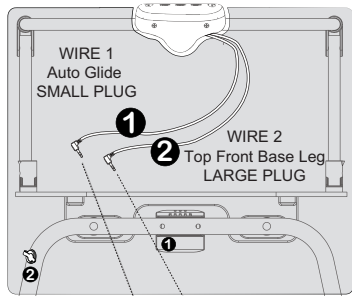

Fig. 1
- Locate the auto-glide housing plug cord **1** and insert it into the auto-glide connector **1**. (Fig. 1)
Make sure both wires are fully connected (Fig. 1)